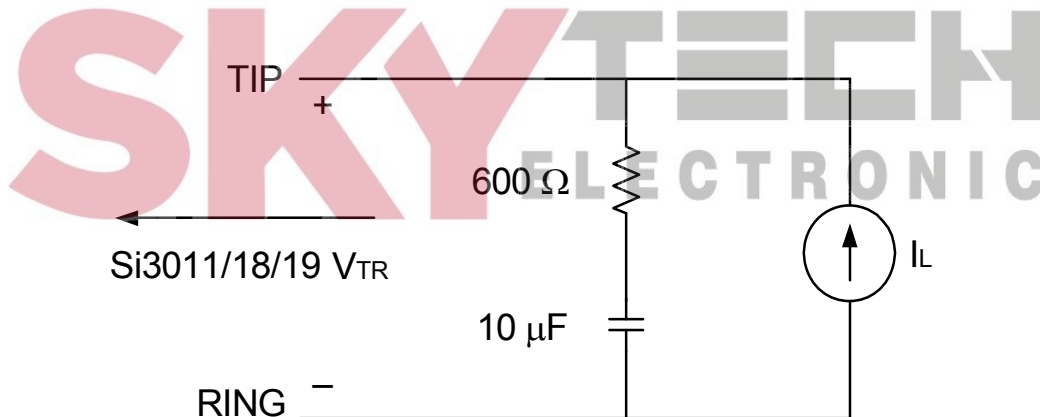

Figure 1. Test Circuit for Loop Characteristics
($V_D = 3.0$ to 3.6 V, $T_A = 0$ to 70 °C, see Figure 1 on page 6)
1. Measured at TIP and RING with 600Ω termination at 1 kHz, as shown in Figure 1 on page 6.
- Measured at TIP and RING with 600 Ω termination at 1 kHz, as shown in Figure 1 on page 6.